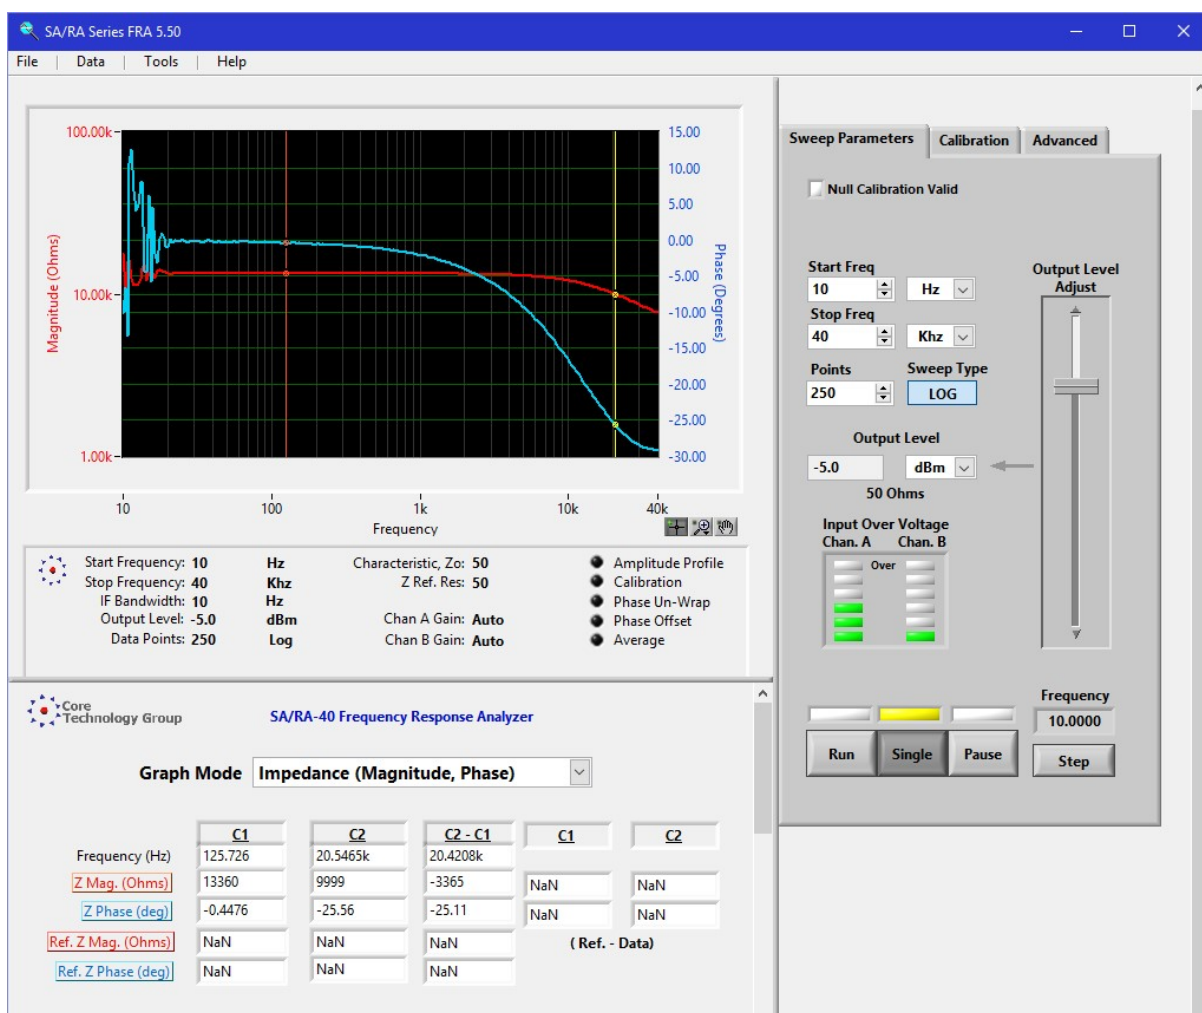

Figure 4
Looking at Figure 4, the impedance (Red) graph begins to roll off at around 8 KHz. This roll off is caused by capacitance in the circuit. We positioned the Yellow cursor (C2) over the sloping portion of the graph. Under C2 on the lower portion of the screen the frequency (F) is 20.5465 KHz, the impedance (Z Mag) is 9,999 ohms and the phase (Z Phase) is -25.56 degrees. From this we can calculate the capacitance by using the equation: